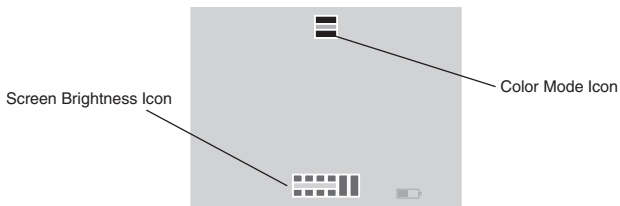

FIGURE 3.4. SCREEN OF SECOND MENU SET
- (3) Align the headmount/helmet mount adapter's latch to the headmount socket (Figure 3.4.). Press and hold down the latch lever while installing the monocular into the headmount socket.
(Figure 3.4.) and move the monocular back toward your non-dominant eye until the eyecup comfortably seals around the eye.
Set your eye relief by depressing the side buttons (or press down on side lever on metal mount) (see Figure 3.4.) and carefully move the monocular fore or aft until the eyecup comfortably seals around the eye. Readjust the helmet straps as required for vertical adjustment.
- (4) Turn power switch to ON. Adjust the tilt by using the tilt adjustment lock knob (or tilt adjustment lever on metal mount) (Figure 3.4.) until you obtain a comfortable viewing angle.